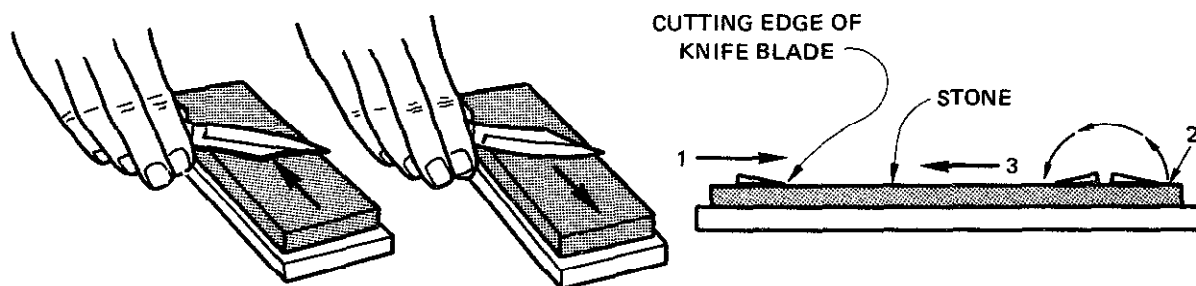

Fig. 9-51 Whetting a knife.
3. Whet the blade on an oilstone until the feathered edge is removed. Use strokes against the cutting edge, moving the blade along the entire length of the stone. Reverse the direction at the end of each stroke by rolling the blade as shown in figure 9-51.